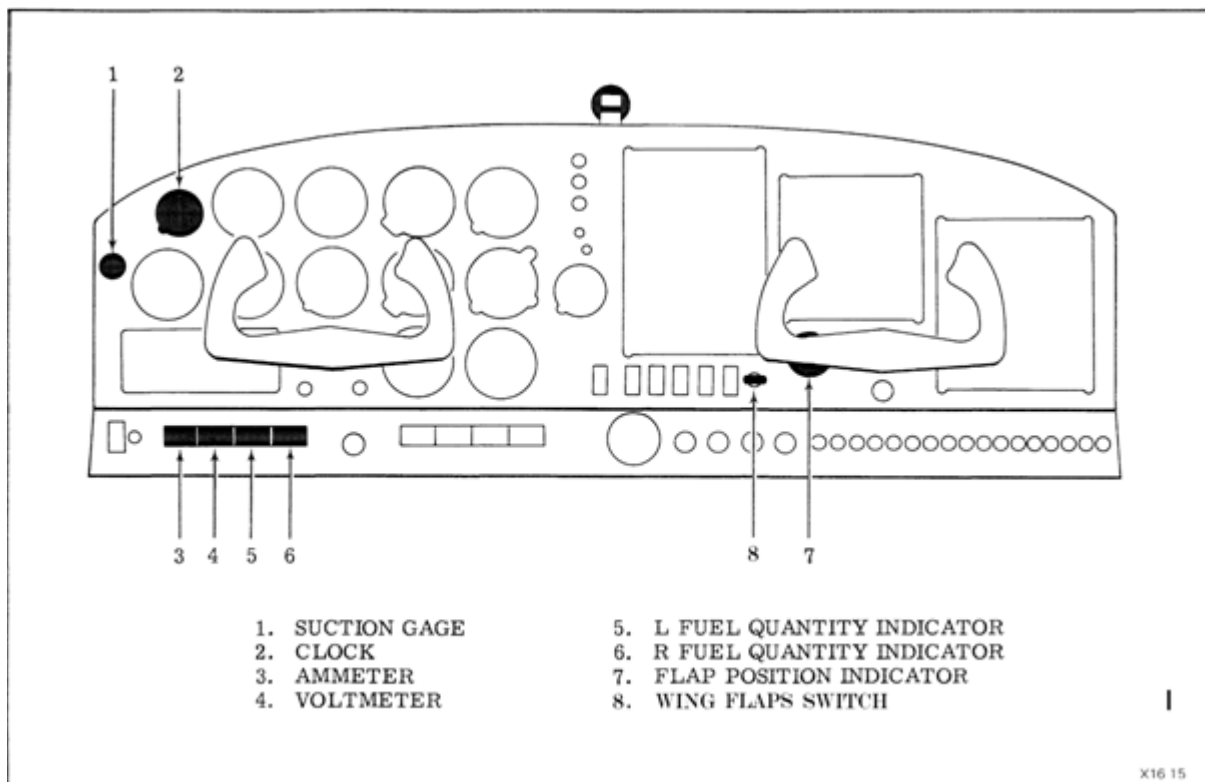

Figure 1
*The wing flaps are electrically operated... Flap position is controlled by a switch labeled "WING FLAPS" (Item 8 of Figure 1)... Flap position is electrically indicated by a gauge mounted above, and to the right of, the flap switch (Item 7 of Figure 1).*
It is possible that the flap switch spring may break, thus not allowing the switch to re-center, providing a continuous contact closure, and driving the flaps to full down within 9 seconds. The flap indicator (as shown in Item 7 of Figure 1) is located outside the pilot's normal scan and may be obstructed by the copilot's yoke. This configuration can become critical to the performance of the airplane if the following occur: